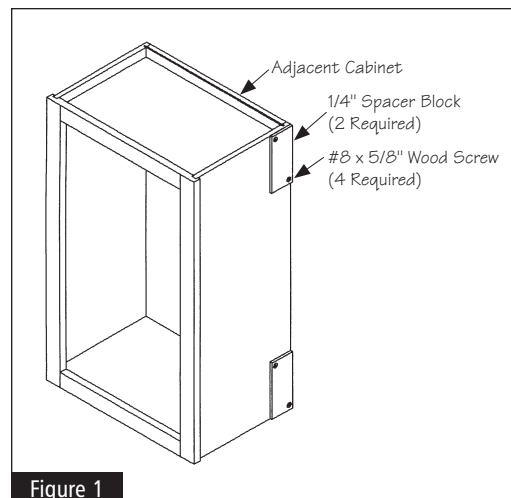

Figure 1
- 1** Skip to Step #2, if you will be attaching your SEW to a 3/4" thick Side Panel. Cut the 1/4" wood spacer in half and attach to the rear of the side panel of the adjacent cabinet. Drill and countersink two 3/32" diameter pilot holes through each spacer and attach the spacers to the cabinet side panel to which the SEW will be mounted using two #8 x 5/8" wood screws for each spacer. Make sure the screw head is flush with spacer surface. See Figure 1.